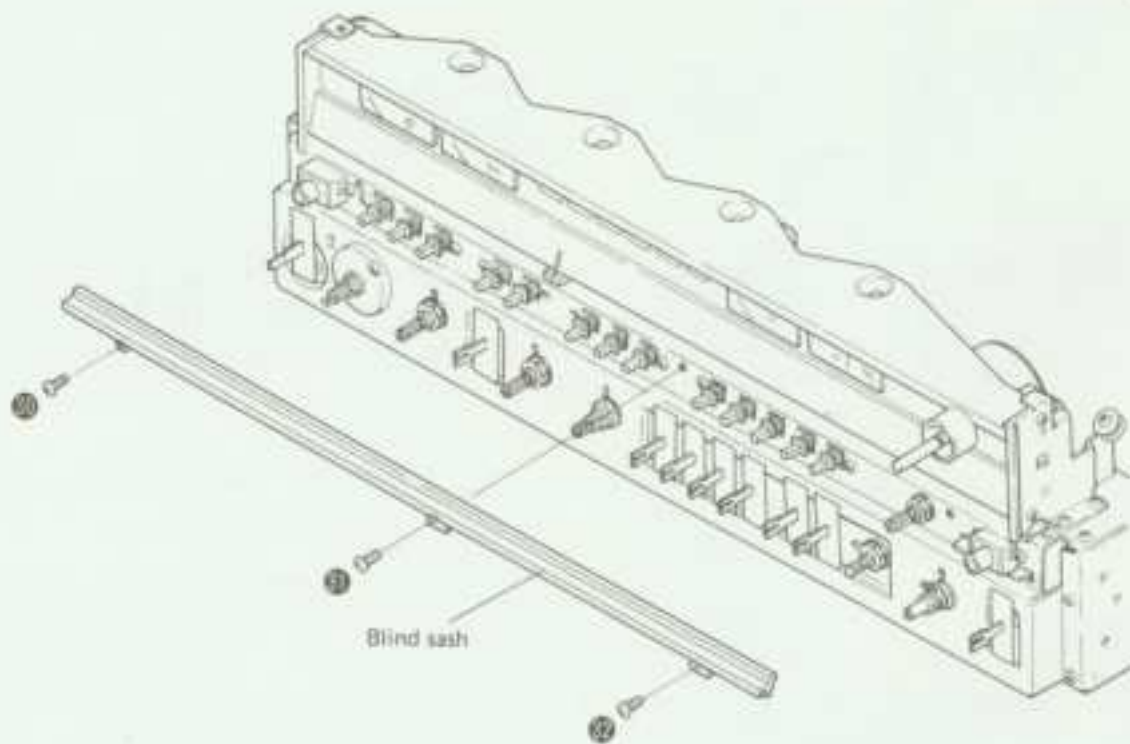

Fig. 13
2. Undo the 3 screws ⑩ - ⑫ to remove the blind sash (Fig. 13).